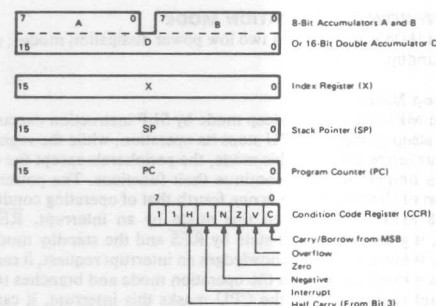

Figure 28 CPU Programming Model
- CPU Programming Model (refer to Fig. 28)
Fig. 28 depicts the HD6303Y programming model. The double accumulator D consists of accumulator A and B, so when using the accumulator D, the contents of A and B are destroyed.